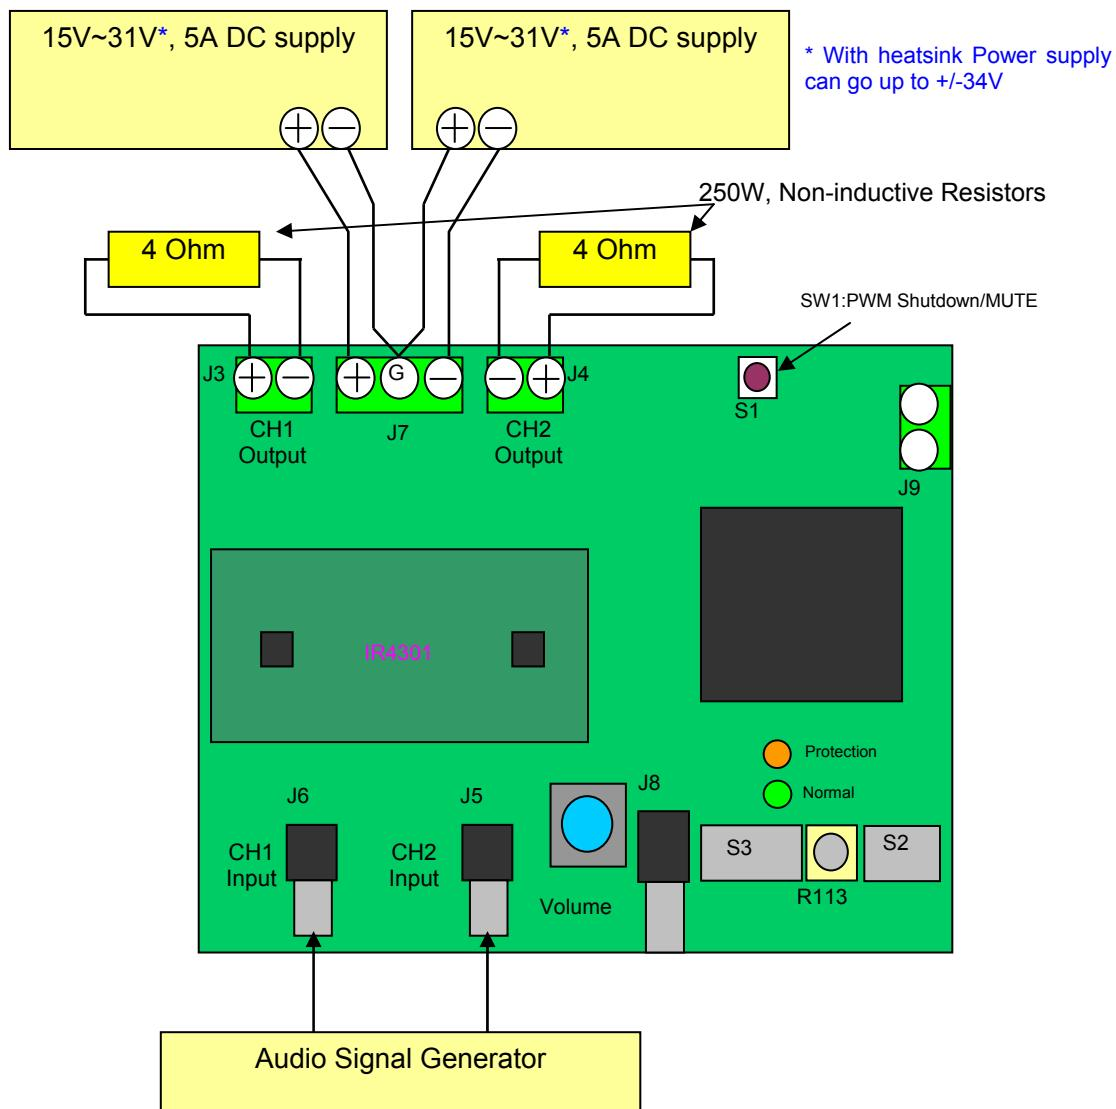

Figure 1 Typical Test Setup
1. Connect 4Ω -250 W dummy loads to output connectors (J3 and J4 as shown on Figure 1) and parallel it with input of Audio Precision analyzer (AP).
6. Connect the dual power supply to J7. as shown on Figure 1